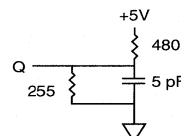

Fig. 2 OUTPUT LOAD EQUIVALENT
6. t_{HZCE}, t_{HZOE} and t_{HZWE} are specified with C_L = 5pF as in Fig. 2. Transition is measured ±500mV from steady state voltage.